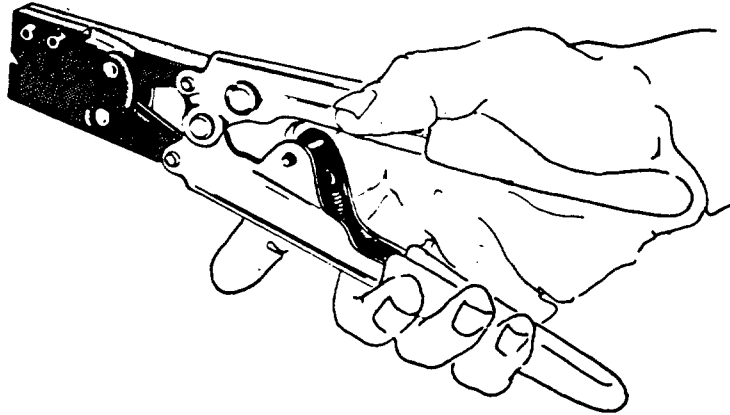

FIGURE 2-7 HAND CRIMPER
- (1) Contact Terminal Assembly using Molex Crimper (**Figure 2-7**)
- b. Open the Molex hand crimper (See **Figure 2-7**) with the engraved side toward the operator. Place the conductor tab section of a contact terminal on Anvil B with the contact portion facing away from the operator. Close the crimper slightly until the contact tabs touch the female jaw.
- (2) Contact Insertion into Molex Connector Housing
- (3) Location of Polarizer Key in Housing